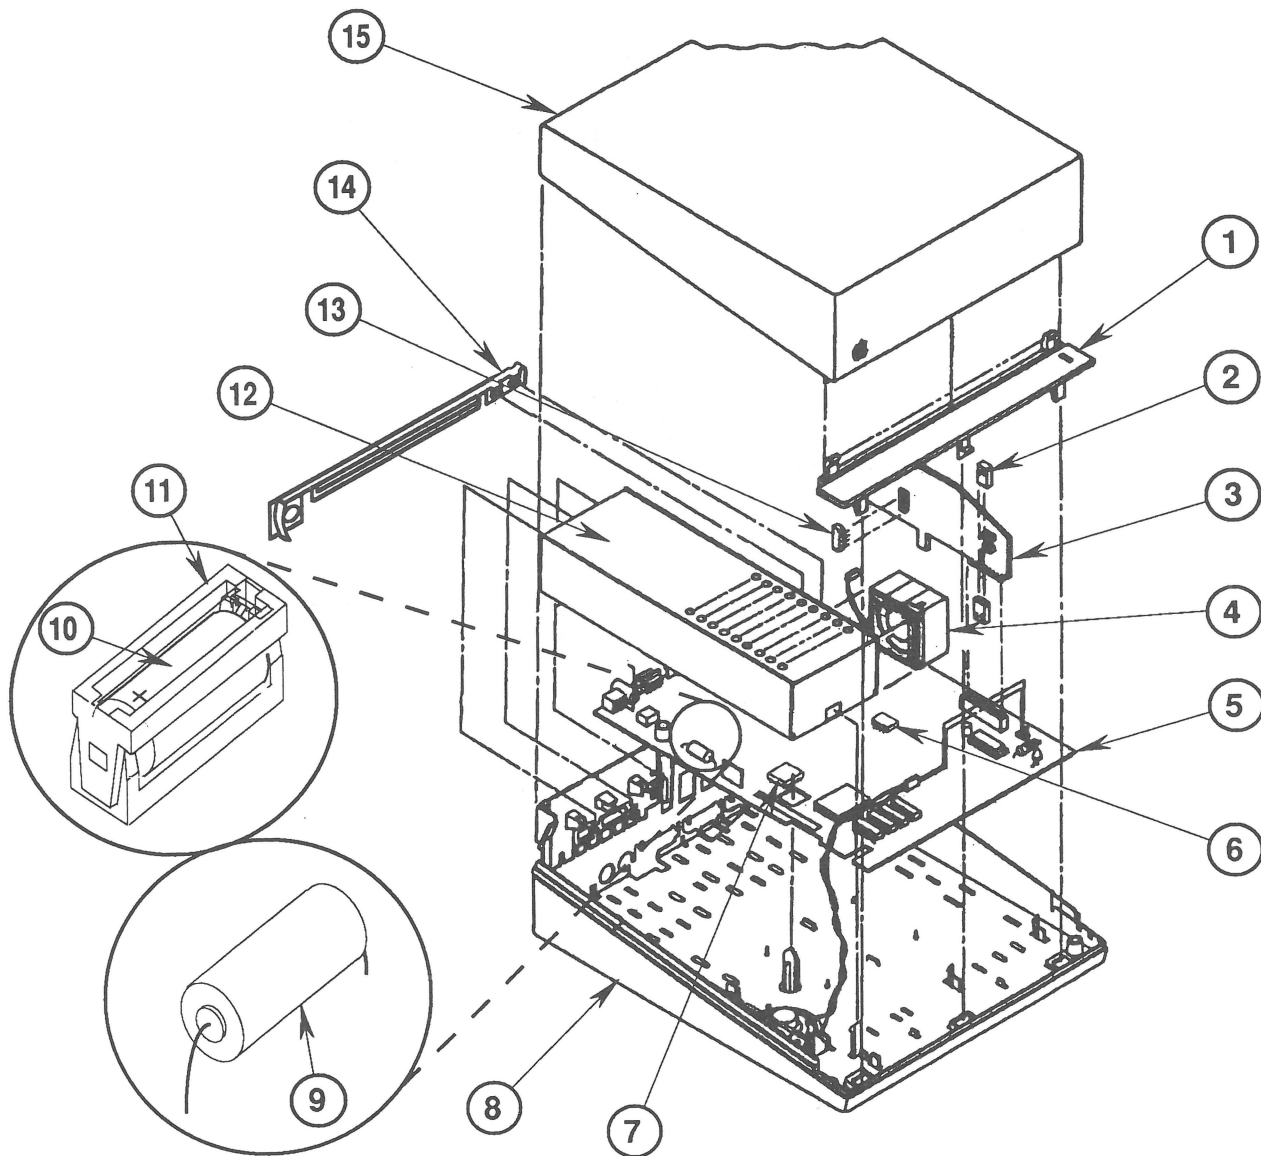

FIGURE 1
- IPL.3 Main Assembly (Figure 1)
□ **APPLE IIGS—MAIN ASSEMBLY (Figure 1)**